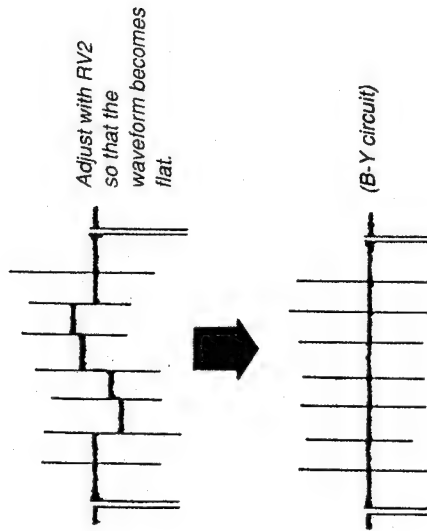

Fig. 11-2.
4. Set the oscilloscope sensitivity to 20 mV/DIV, and adjust RV2 on the BC board so that the output waveform is flat. (See Fig. 11-2.)